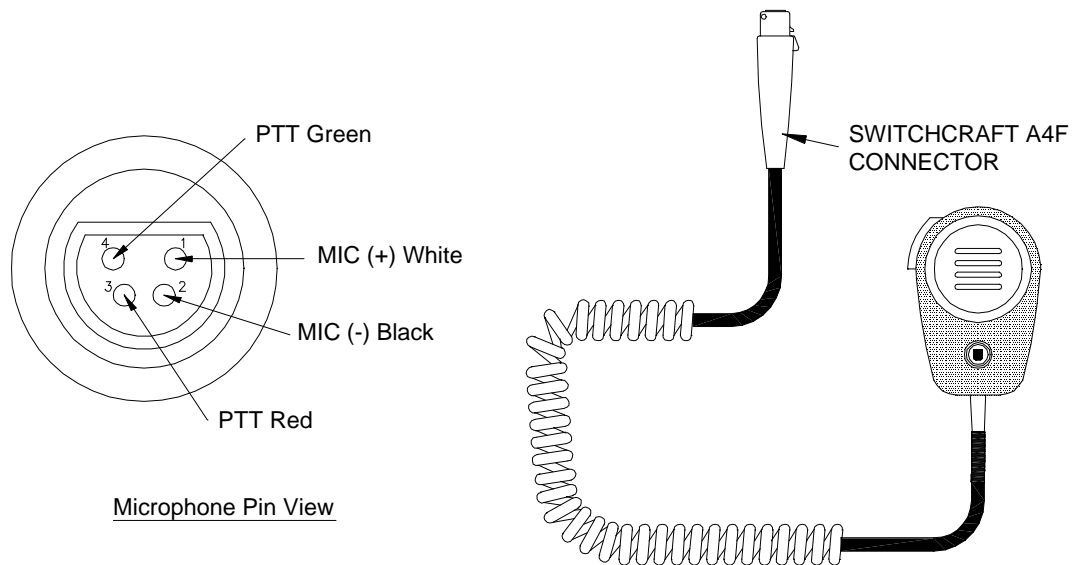

Figure 1
- 2 & 3) Microphone 1 and 2- Microphone input plus adapter will allow operator to use most available microphones, the appropriate Gain control potentiometer must be preset per the above instructions. See Fig. 1 for microphone and pinout.